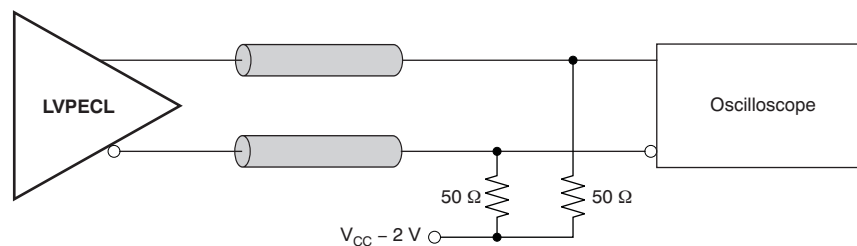

Figure 8. LVPECL Output DC Configuration During Device Test
(1) Figure 8 and Figure 9 show dc and ac test setup.
(2) Internally generated bias voltage ( $V_{AC\_REF}$ ) is for 3.3-V operation only. It is recommended to apply externally generated bias voltage for  $V_{CC} < 3.0\text{ V}$ .